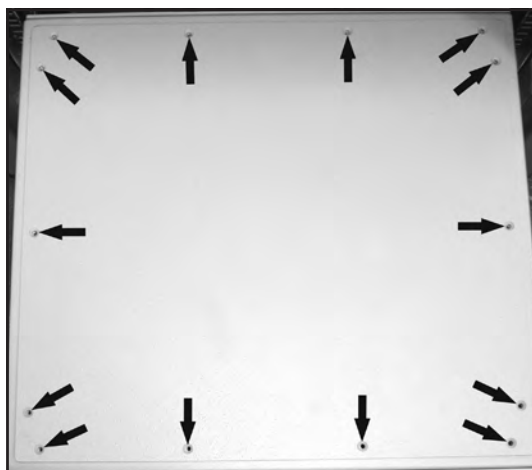

Figure 6. Midbox lid screws.
6. Remove the 14 top cover fixing screws from the Midbox and remove the lid (figure 6).
20. Re-fit the Midbox top cover and all the retaining screws (figure 6).